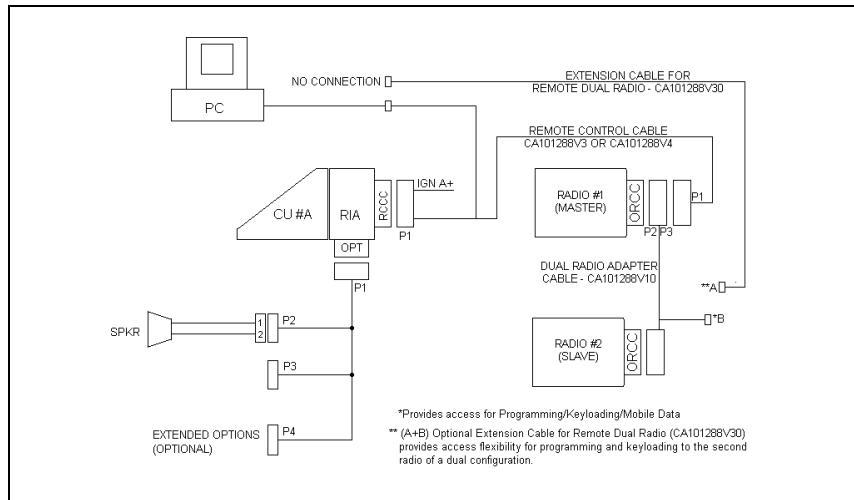

Figure 32 - M7100^{IP} Dual Radio Remote Mount/Remote Mount Installation Configuration
1. Plan the mounting locations of the two Radio Units. Note that the maximum cable length allowed between the two radios is two meters. Referring to Figure 32, run Dual Radio Cable (CA101288V10) between locations for Master and Slave Radio Units. Be sure to locate the P2/P3 connector assembly at the Master Radio Unit.